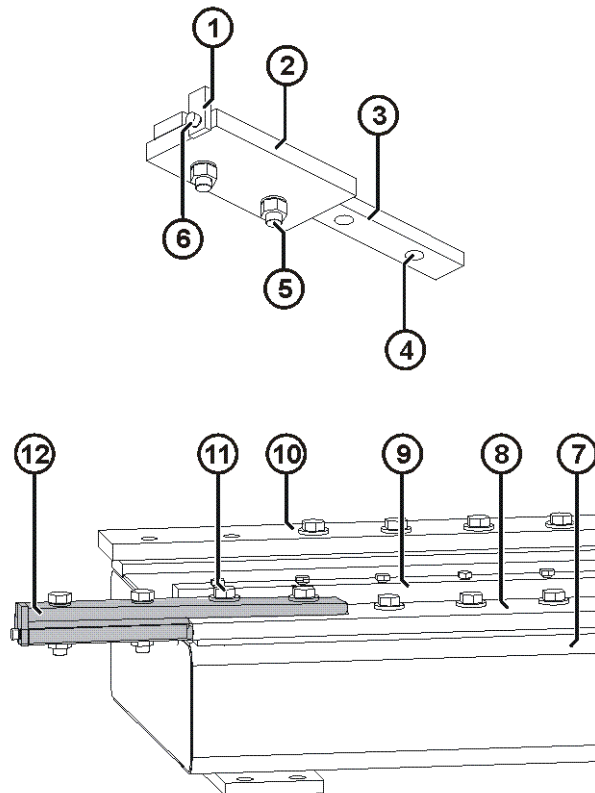

Fig. 11-7: Installing the auxiliary device
1. Screw the rail (>>> Fig. 11-7) to the strip using two M20x80-8.8 hexagon bolts (5) together with lock washers and hexagon nuts. Tighten the hexagon bolts with a torque of $M_A = 370 \text{ Nm}$.
2. Screw the carriage stop to the rail using an M10x25-8.8 Allen screw (6) and lock washer. Tighten the Allen screw with a torque of $M_A = 45 \text{ Nm}$. The stop must be attached so that the lower edge of the stop is flush with the lower edge of the rail.
6. Mount the auxiliary device on the track and fasten it using two M20x80-8.8 hexagon bolts (11) and lock washers. Tighten the hexagon bolts with a torque of $M_A = 370 \text{ Nm}$.